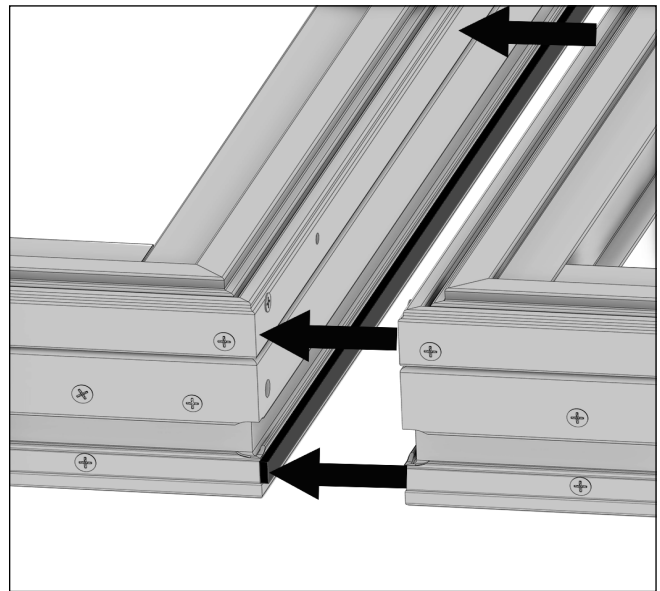
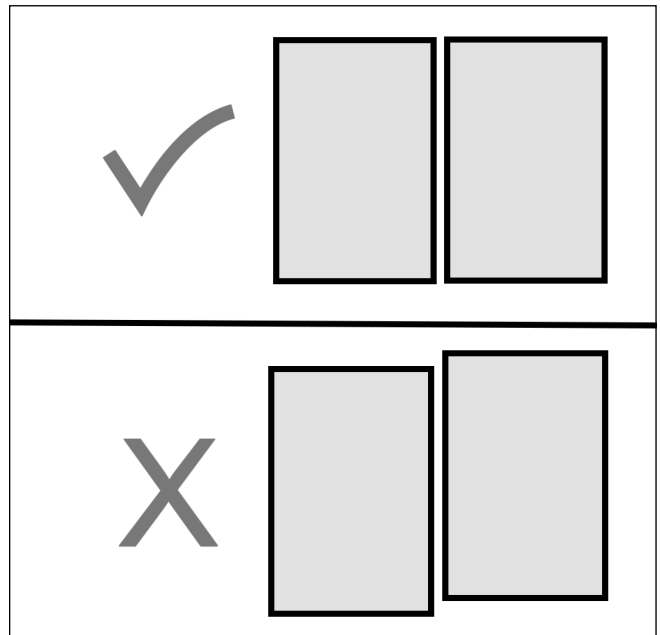

Figure 30 Move assemblies together flush ends
Figure 31 Move assemblies together flush ends
4. Move assemblies together and flush the end. See Figure 30 and Figure 31.